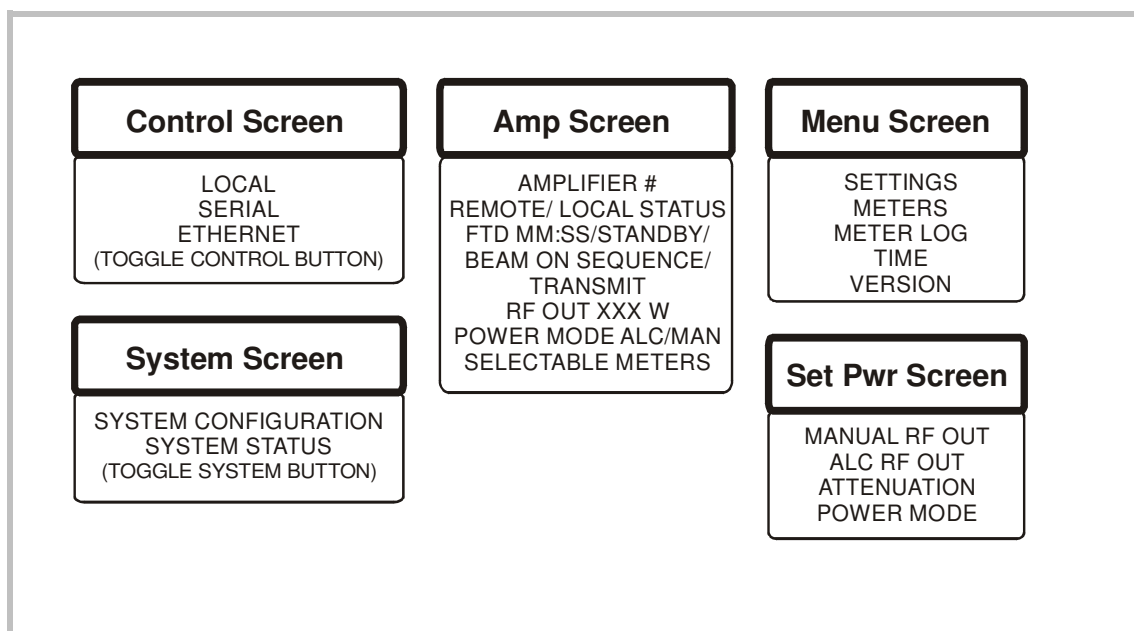

Figure 3-5. Remote Control Unit Menu Tree
The menu tree shown in Figure 3-5 identifies the first level displayed messages associated with each of the main Remote Control Unit display modes with an Amplifier selected.
**NOTE:** For all the choices available on the *FUNCTION* submenu, refer to the message list for the *FUNCTION* key in Figure 3-5.